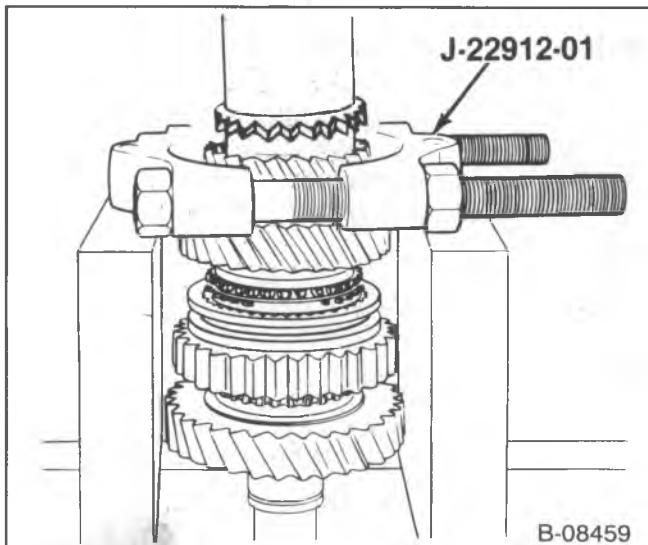

Figure 20—Removing the 5th Speed Driven Gear
- 3. Remove the snap ring and the 2nd speed gear thrust washer (666).
- 4. Remove the 2nd speed gear (667) and blocker ring.
- 5. Press the mainshaft through the 5th speed driven gear (679) using J 22912-01 (figure 20).
- 6. Mainshaft rear bearing (678).
- It may be necessary to press the mainshaft through the bearing using J 22912-01 (figure 20).